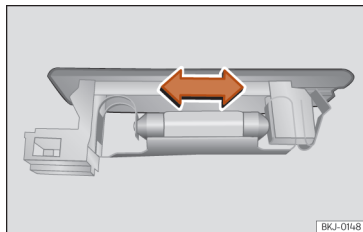

Fig. 167 Boot light.
- Press the bulb sideways and remove it from its housing »» **Fig. 167**.